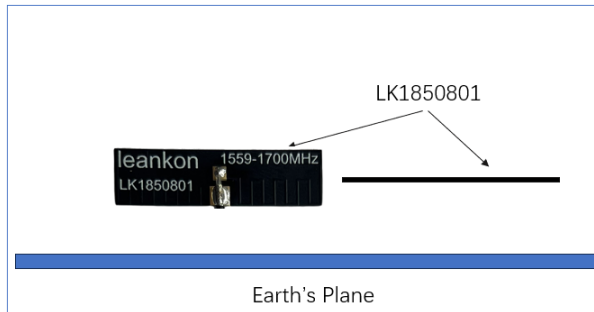

Figure 2.1.1
2. When the antenna is placed parallel to the earth's plane, as shown in Figure 2.1.1, the polarization will be horizontal. Conversely, when the antenna is positioned vertically with respect to the earth's plane, as depicted in Figure 2.1.2, the polarization will be vertical. Linear polarization includes Horizontal and Vertical.